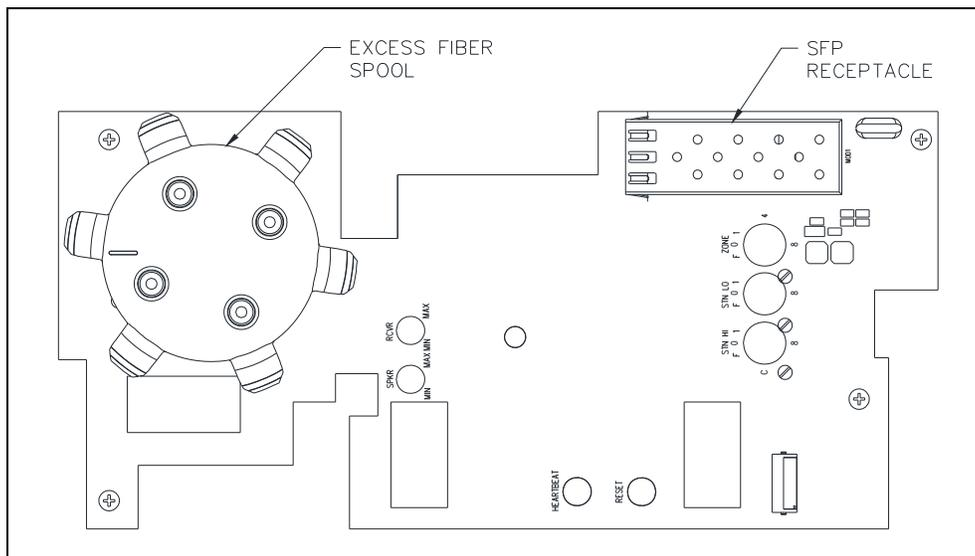
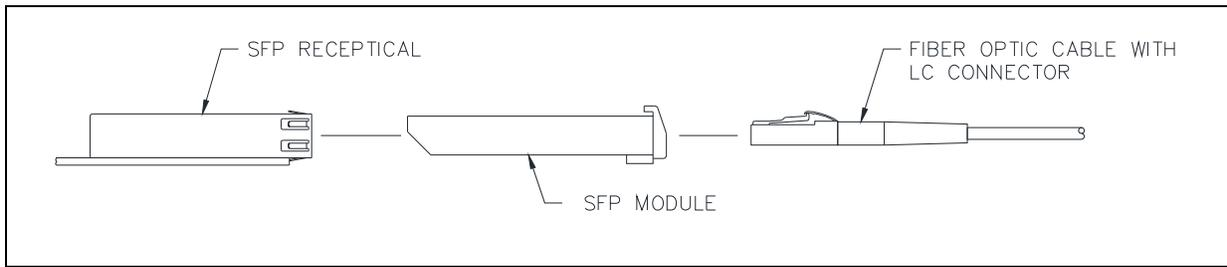

Figure 9. Fiber Termination PCBA
Figure 10. SFP Transceiver Insertion and Fiber Plug-in
The fiber termination PCBA (see Figure 9) mounts to the top of the main PCBA. Exact fiber termination is installation dependent because the fiber optic cable and SFP (Small Form-factor Pluggable) transceivers used in SP2 system installations are customer supplied. Here are the basic steps for terminating the fiber optic cable to the SP2 station:
1. Insert the SFP transceiver into the SFP receptacle (see Figure 9 and Figure 10).
4. Plug the fiber connector into the SFP (see Figure 10).